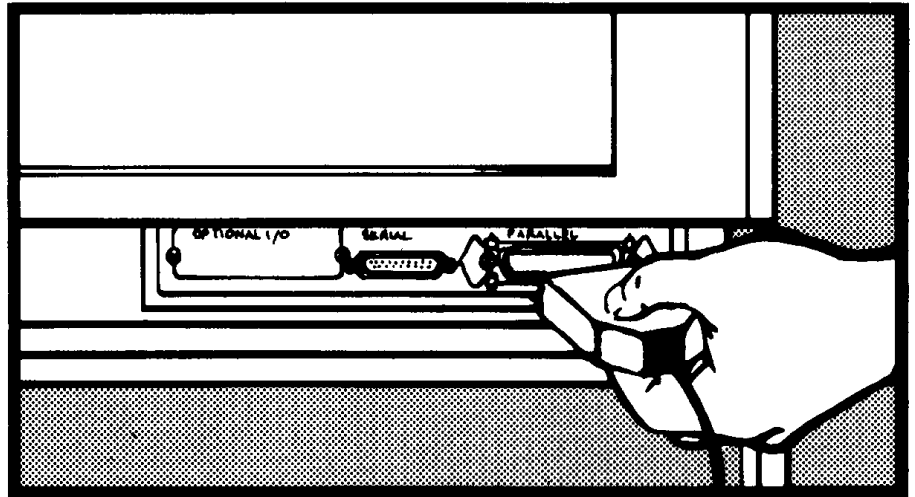

FIGURE 6
6. **Tran-x SP-01:** Plug the Tran-x SP-01 directly onto the Centronics parallel port on your printer (see *Figure 6*). Secure the Tran-x SP-01 by using the spring clips on the printer.